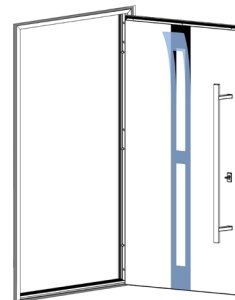

Figure 25.
5. Upon completion of installation work, remove protective films from the door (figure 25)